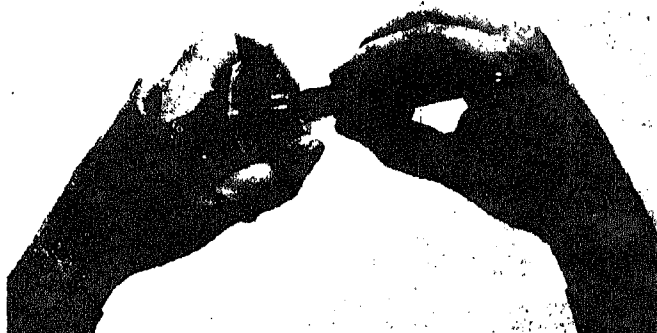

Fig. 510-9 Installing throttle shaft "O" ring
1. Install new "O" ring on throttle shaft using ST-835 Mandrel for 1/2 inch (ST-422 for larger) shaft to avoid damage to "O" ring. Lubricate in "STP" before assembly. Fig. 510-9.